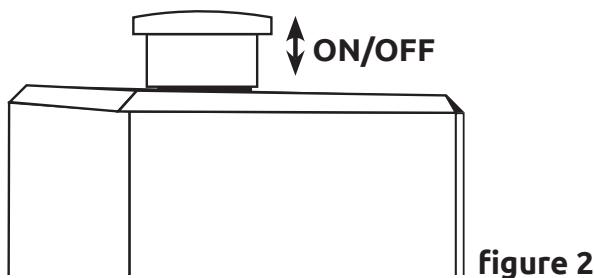

Figure 2
- Open the outlet valve, set the knob of the pressure switch in position "ON" (Fig.2) and let the compres-